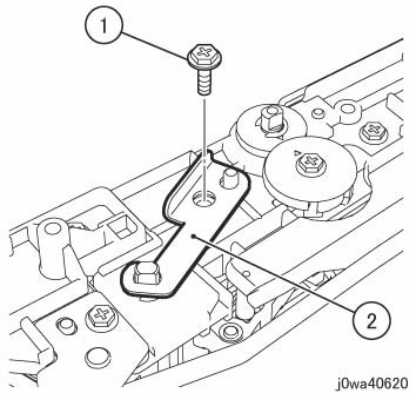

Figure 12 Switch the Tension Plate
- Remove the Tension Plate. (Figure 12)